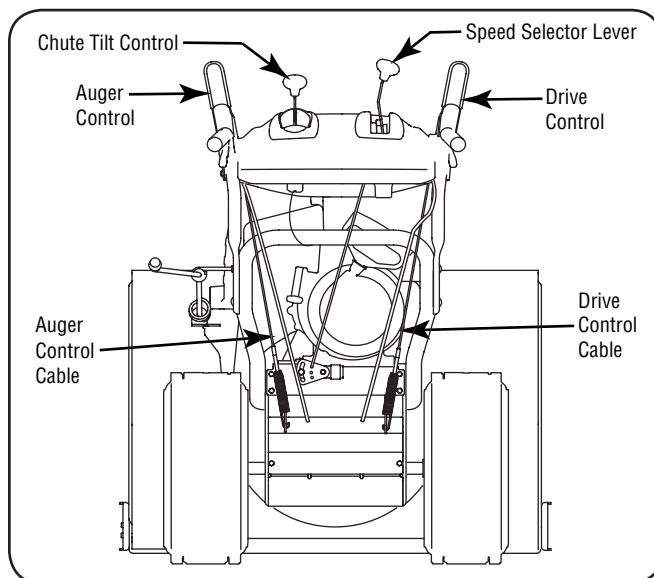

Figure 3-11
1. When the auger control is released and in the disengaged "up" position, the cable should have very little slack. It should NOT be tight. Refer to Figure 3-11.
1. With the engine turned off, move the speed selector lever into sixth (6) position. Refer to Figure 3-11.
1. From beneath the handle, pull downward on the appropriate cable and unhook the spring found on the end of the cable from its respective actuator bracket. Refer to Figures 3-11 and 3-12.